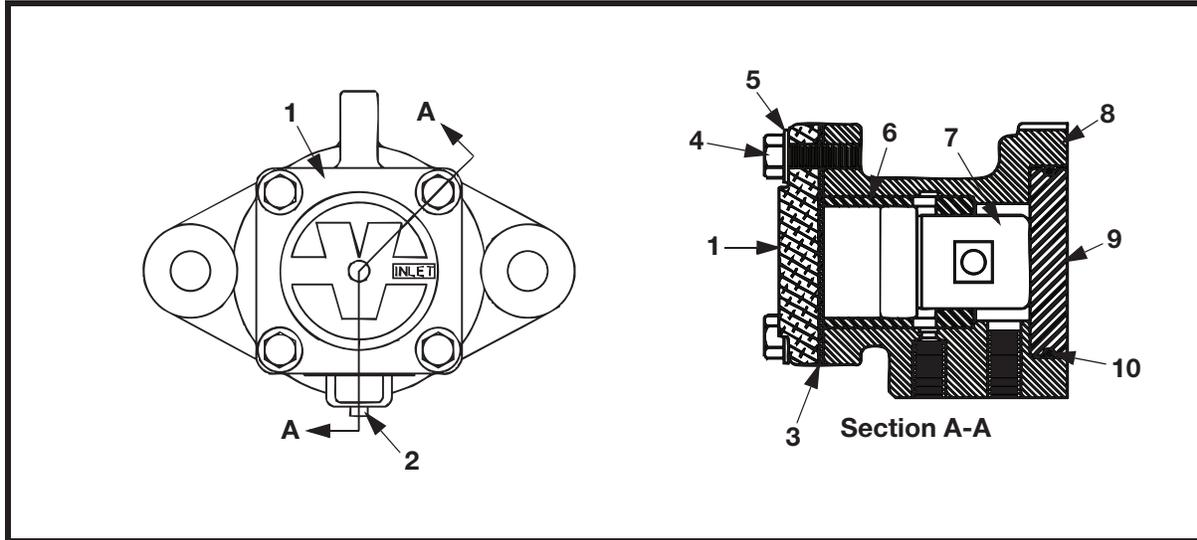

Figure 8. Martin® PV 1-1/4 (P/N 12883) Piston Vibrator or Thumper™ T-125 (P/N 21685) Timed Impactor Assemblies
- Martin® PV 1-1/4 Piston Vibrator Assembly:** P/N 12883. See Figure 8.
- Martin® Thumper™ T-125 Timed Impactor Assembly:** P/N 21685. See Figure 8.